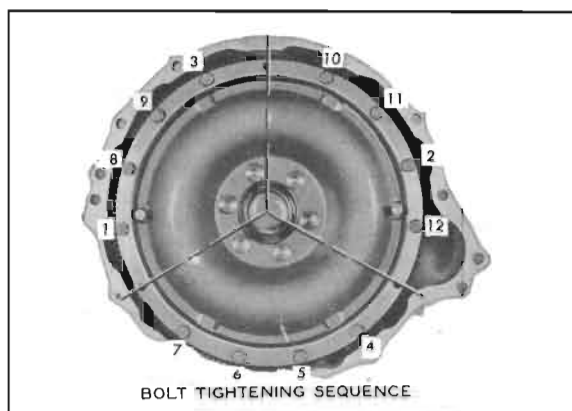

Figure 5-108—Bolt Tightening Sequence
20. Install bolts with lock washers in all but the three driving bolt holes, insert the shank of a $1\frac{1}{32}$ " drill through one bolt hole to align all holes, then tighten bolts to approximately 5 ft. lbs. torque in numerical sequence shown in figure 5-108. Finally tighten bolts in same sequence to 25-30 ft. lbs. torque.